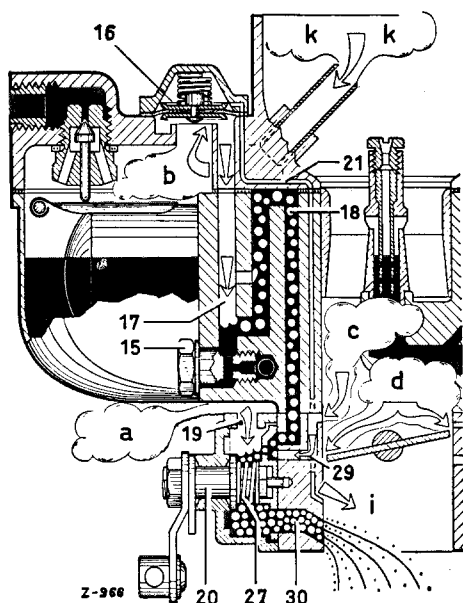

Fig. 07-0/15
As soon as the engine has warmed up a little, the starter knob can be pushed in halfway. As a result, the starter rotary slide valve is turned toward the right via the starter lever; the graded bore (33) in the slide valve is covered by the sealing surface (35) on the starter flange (see Fig. 07-0/12). Since the starter mixing chamber (27) is no longer connected with the fuel canal (18) by the bore (33), but only by the fine-graded bore (32) in the starter rotary slide valve, the amount of fuel admitted is greatly decreased and the start mixture is leaned out further. Fig. 07-0/15 shows the mode of action of the starter mechanism during warming-up.